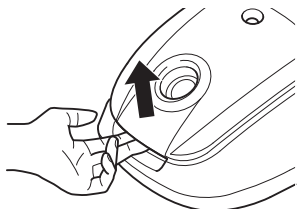

Fig. 17
1. Open the dust chamber cover by unlocking it and then flipping it up (Fig. 17).